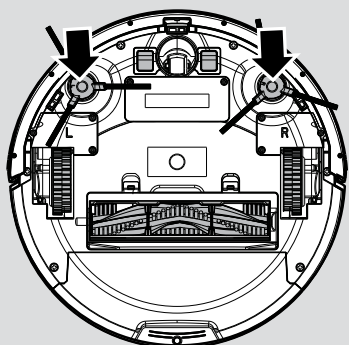

Fig. 3
7. Press the two edge cleaning brushes onto the brackets until they click into place. Pay attention to the designation L and R onto the device as well as on the brushes. **[Fig. 3]**